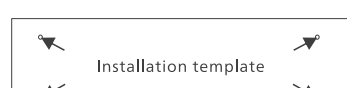

Figure 1
3. As shown in Figure 1, paste the installation template on marked location at ceiling, then use a marker to mark out four holes.